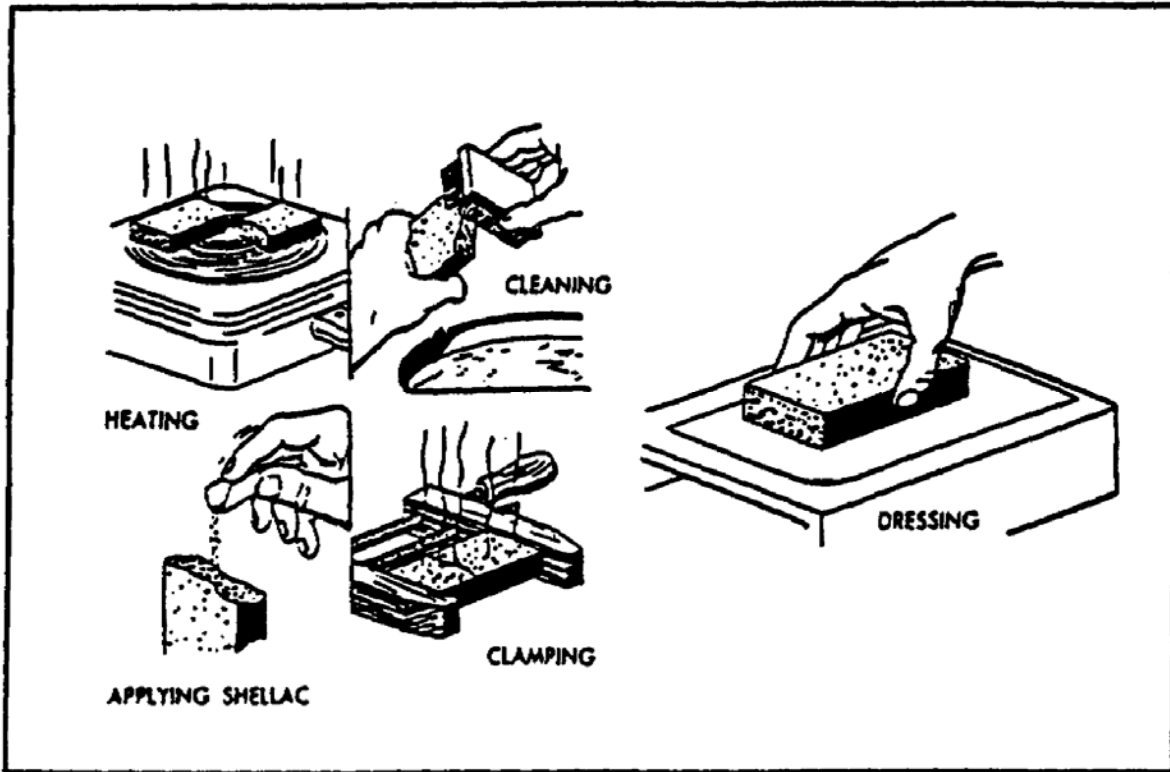

FIGURE 64. REPAIRING BROKEN OILSTONE.
(3) *Repairing.* Oilstones are easily broken if they are not handled carefully. Repair a broken oilstone in the manner described in (a) through (f) below. Refer to figure 64 for the repair procedure.